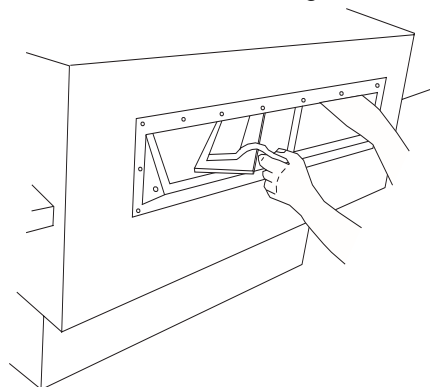

Figure 4-6. Window Removal
3. Push the open window all the way inside the oven, making sure it is clear of the frame. Now, turn the window sideways inside the oven (Figure 4-6,) and then remove it. This will avoid breaking the window.